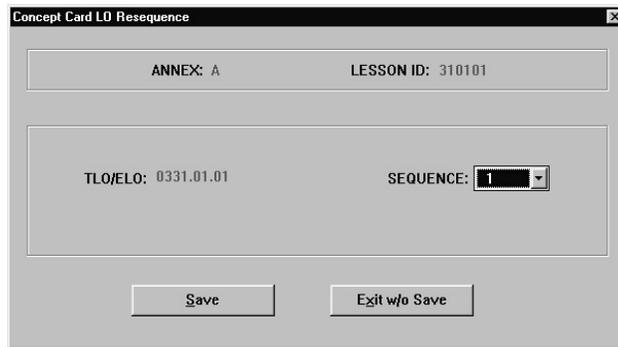

Figure 6-85. Concept Card LO Resequence
2. Click on **Resequence**. The Concept Card LO Resequence dialog box (Figure 6-85) opens. Note that MCAIMS identifies the annex, Lesson ID, and designator for the TLO/ELO being resequenced.